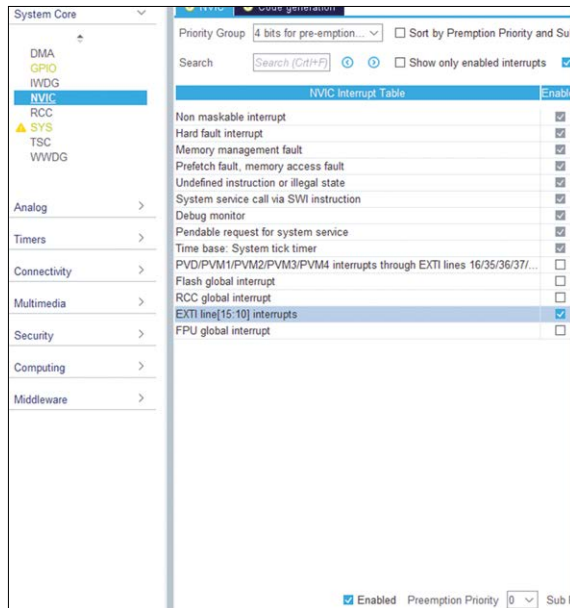

Figure 5.70: Enable EXTI line.
- click **NVIC** and click to enable **EXTI line[15:10]** and set the **Preemptio priority** and **Subpriority** to 0 as shown in Figure 5.70;